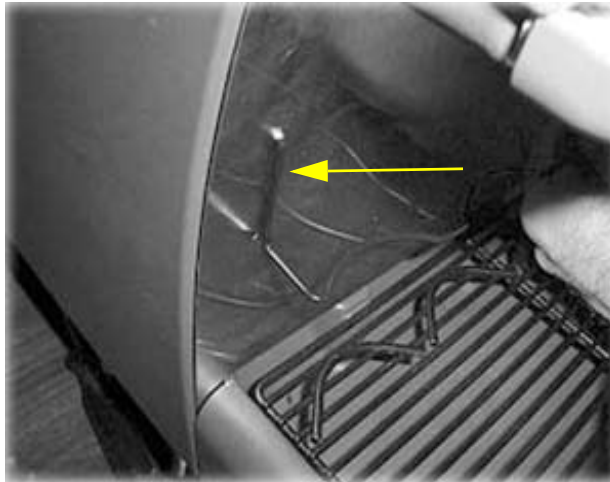

Figure 2.
2. Rotate the Locator towards the Splash Panel and allow it to rest as shown (Figure 2.)